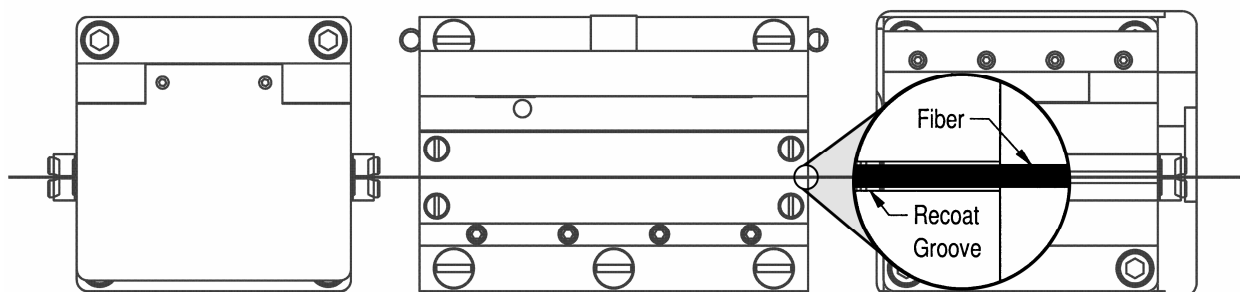

Figure 31: Align Recoat Mold
Lower the assembly straight down over the recoat lamps and replace the six (6) flange screws. Lightly tighten two diagonal screws only to allow for adjustment of the recoat assembly. Open the recoat station top and the tops of the fiber holding blocks. Clamp a length of coated fiber between the holding blocks such that the fiber is under slight tension. (A fiber nominally smaller than that of the diameter of the recoat mold should be used). Using a 10X magnifying loupe, view the fiber straight down at the right-hand edge of the recoat station, as shown in the Figure 31. Adjust the recoat assembly such that the fiber is centered in the bottom recoat groove. Repeat this procedure while viewing the fiber at the left edge of the recoat station. Tighten the recoat flange screws and re-check the fiber alignment.